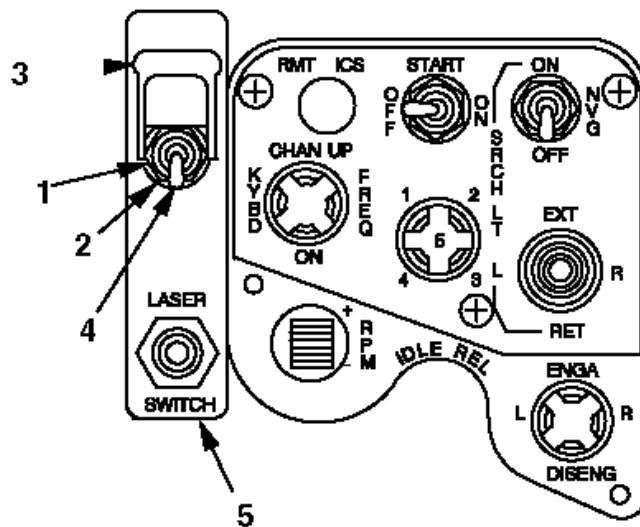

Figure 11
(21) Prime using MIL-PRF 23377 epoxy primer and paint the area.
(22) Reinstall rear center console panel under collective.
j. Remove Cargo Release Switch. (See Figure 11.)
(1) Cut wires connected to cargo release switch.
(2) Remove nut (1), washer (2), and switch guard (3) from cargo release switch (4).
(3) Remove cargo release switch (4) from switch support (5).
(4) Cut shrink-wrap approximately 1/2 inch to expose cargo wires where they enter the collective.
(5) Cut and cap wires and recover with existing shrink-wrap.
(6) Fabricate a cover plate from 2024 sheet stock to cover area on switch support (5).